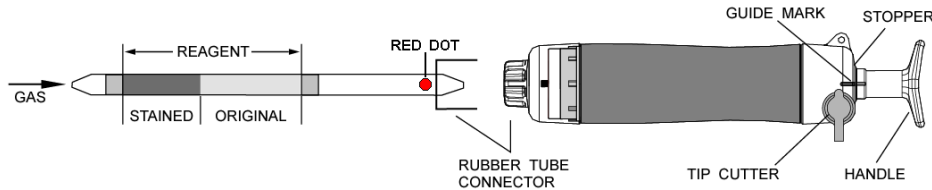

Fig.1
- ② Insert the detector tube into aspirating pump securely as shown in Fig.1. (Red dot shall point to the pump.)
- ③ Align the guide marks on the shaft and stopper of the aspirating pump.
- ④ Pull the pump handle at full stroke until it locks and wait for 2 minutes or until the completion of sampling is confirmed with the flow indicator of the pump (See descriptions about the flow indicator in the instructions of the pump).
- ⑤ On completion of sampling, remove the detector tube from the pump. Align the zero end of the detecting reagent (inlet side of the tube) with the "0-0" line on the concentration chart and the other end with the "X-X" line respectively. Read the concentration at the top of the maximum point of the stained layer against the scale on the chart.